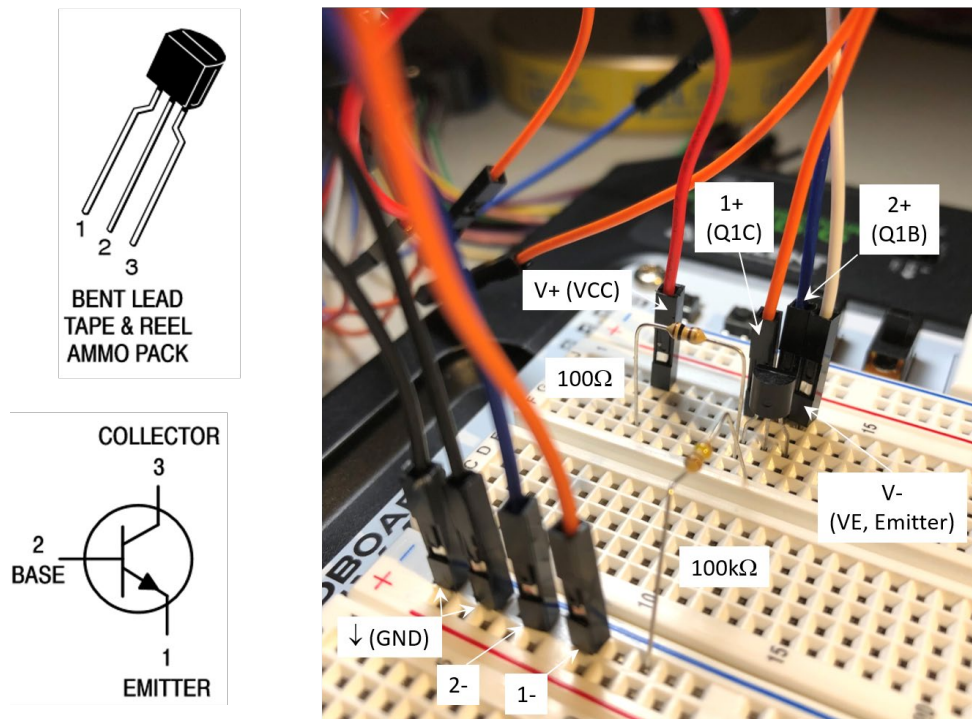

Fig. 2 Experimental setup for the DC characterization of an NPN-BJT 2N3904
- 1.5 Prepare the circuit as shown in Fig. 2 using the same settings for V_E and V_{CC} in Steps 1.2 to 1.4.